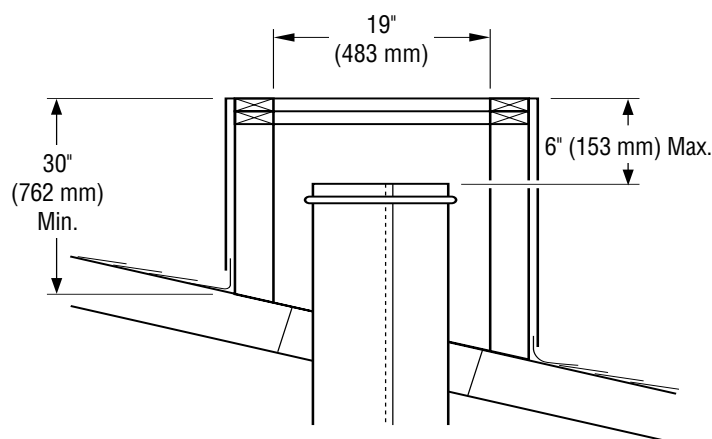

Figure 21 - Constructing Chase
1. Construct chase as illustrated in Figure 21. **Note:** The shortest vertical side must be at least 30" high and minimum inside dimension must be at least 19" as shown in Figure 21.
2. Add pipe sections to chimney system as outlined in fireplace installation instructions until last piece of chimney is a maximum of 6" below top of chase (see Figure 21).